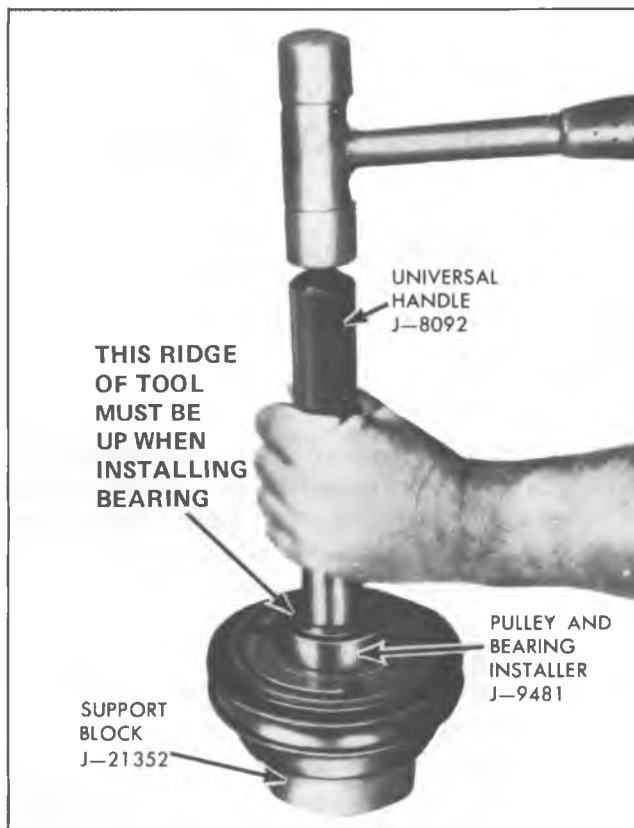

Fig. 15--Installing Bearing on Pulley
1. Install new bearing in pulley using Pulley and Bearing Installer J-9481 with Universal Handle J-8092 (Fig. 15). The Installer will apply the force to the outer race of the bearing.